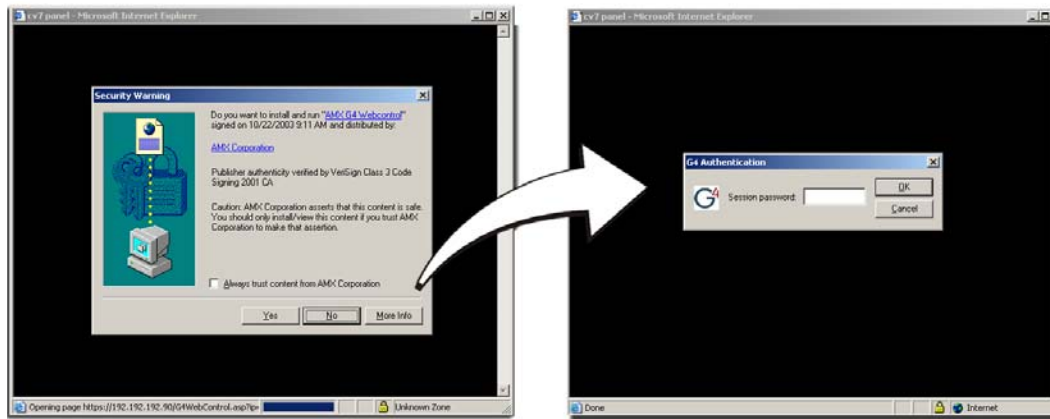

FIG. 39 Web Control VNC installation and Password entry screens
6. Click on the G4 panel name link associated with the target panel. A secondary web browser window appears on the screen (FIG. 39).
10. Enter the Web Control session password into the *Session Password* field (FIG. 39). *This password was previously entered into the Web Control Password field within the G4 Web Control page on the panel.*